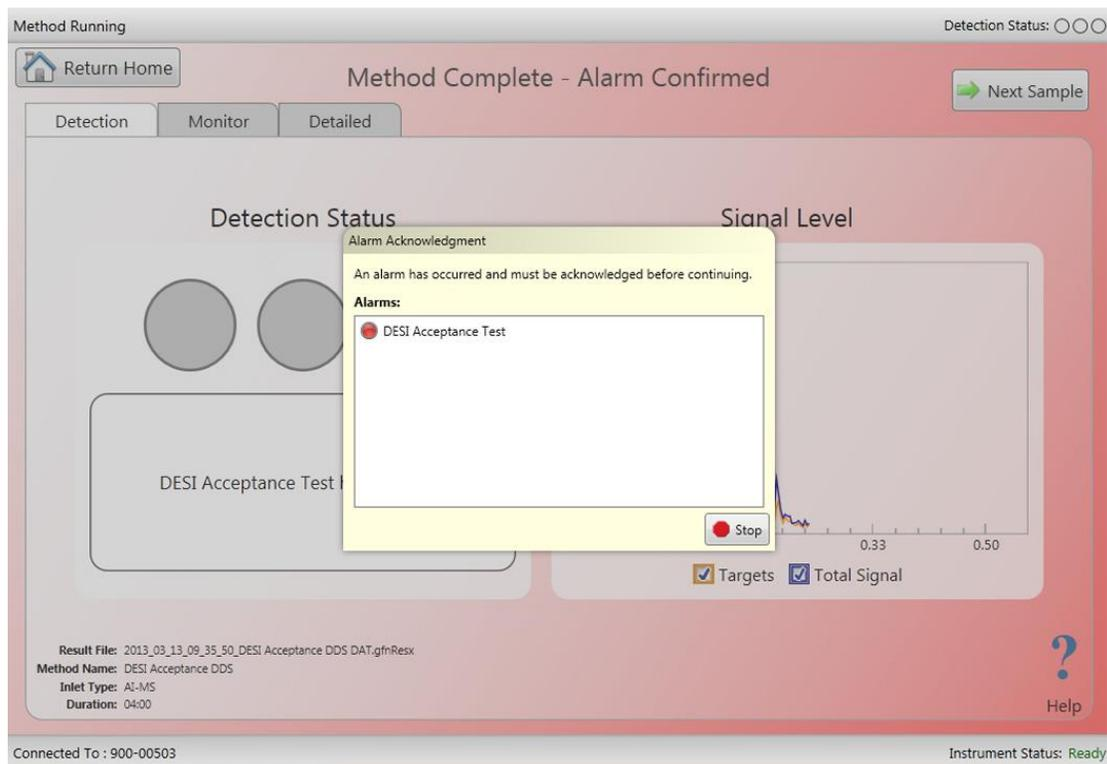
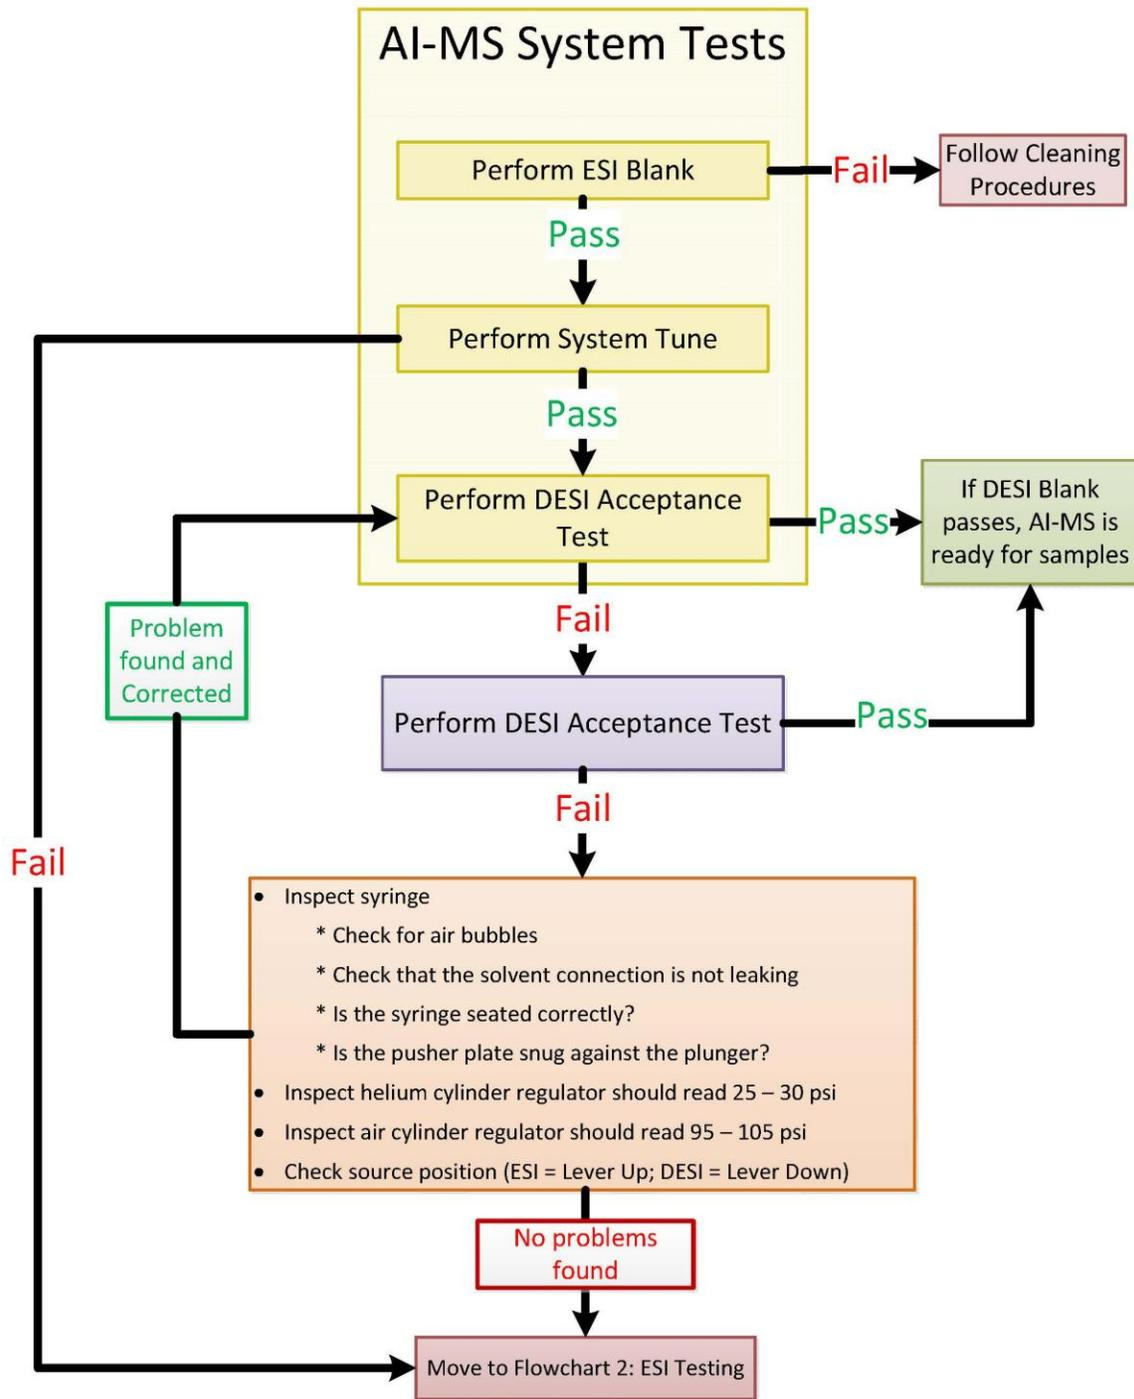

Figure A4 – DESI acceptance test passed
Figure A5 – Troubleshooting flowchart 1
3. Introduce the notecard under the DESI source once the instrument has instructed for samples to be introduced. If an ion at m/z 183 is witnessed, the DESI acceptance test has passed. This will be confirmed by a triggered alarm in Level 1 (i.e. screen will turn RED) (Figure A4). If the DESI acceptance test does not pass (no alarm), following the troubleshooting flowcharts (Figures A5, A6, and A7)